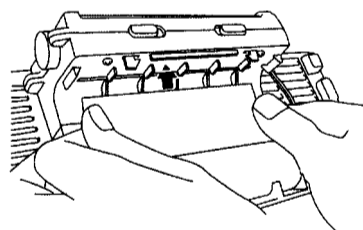

Figure 7. Inserting paper into the printer feed slot
5. Align the edge of the new roll paper strip with the direction shown in Figure 7, and insert it into the paper feed port. The paper is automatically fed until the tip of roll paper is visible on the paper cutter.
Note: The print paper has a printing side and a non-printing (back) side. If the paper is loaded incorrectly, no image is printed. Load the paper as shown in Figure 7 so that it is pulled out of the downside of the paper roll.
- Align the edge of the new roll paper strip with the direction shown in Figure 7, and insert it into the paper feed port.